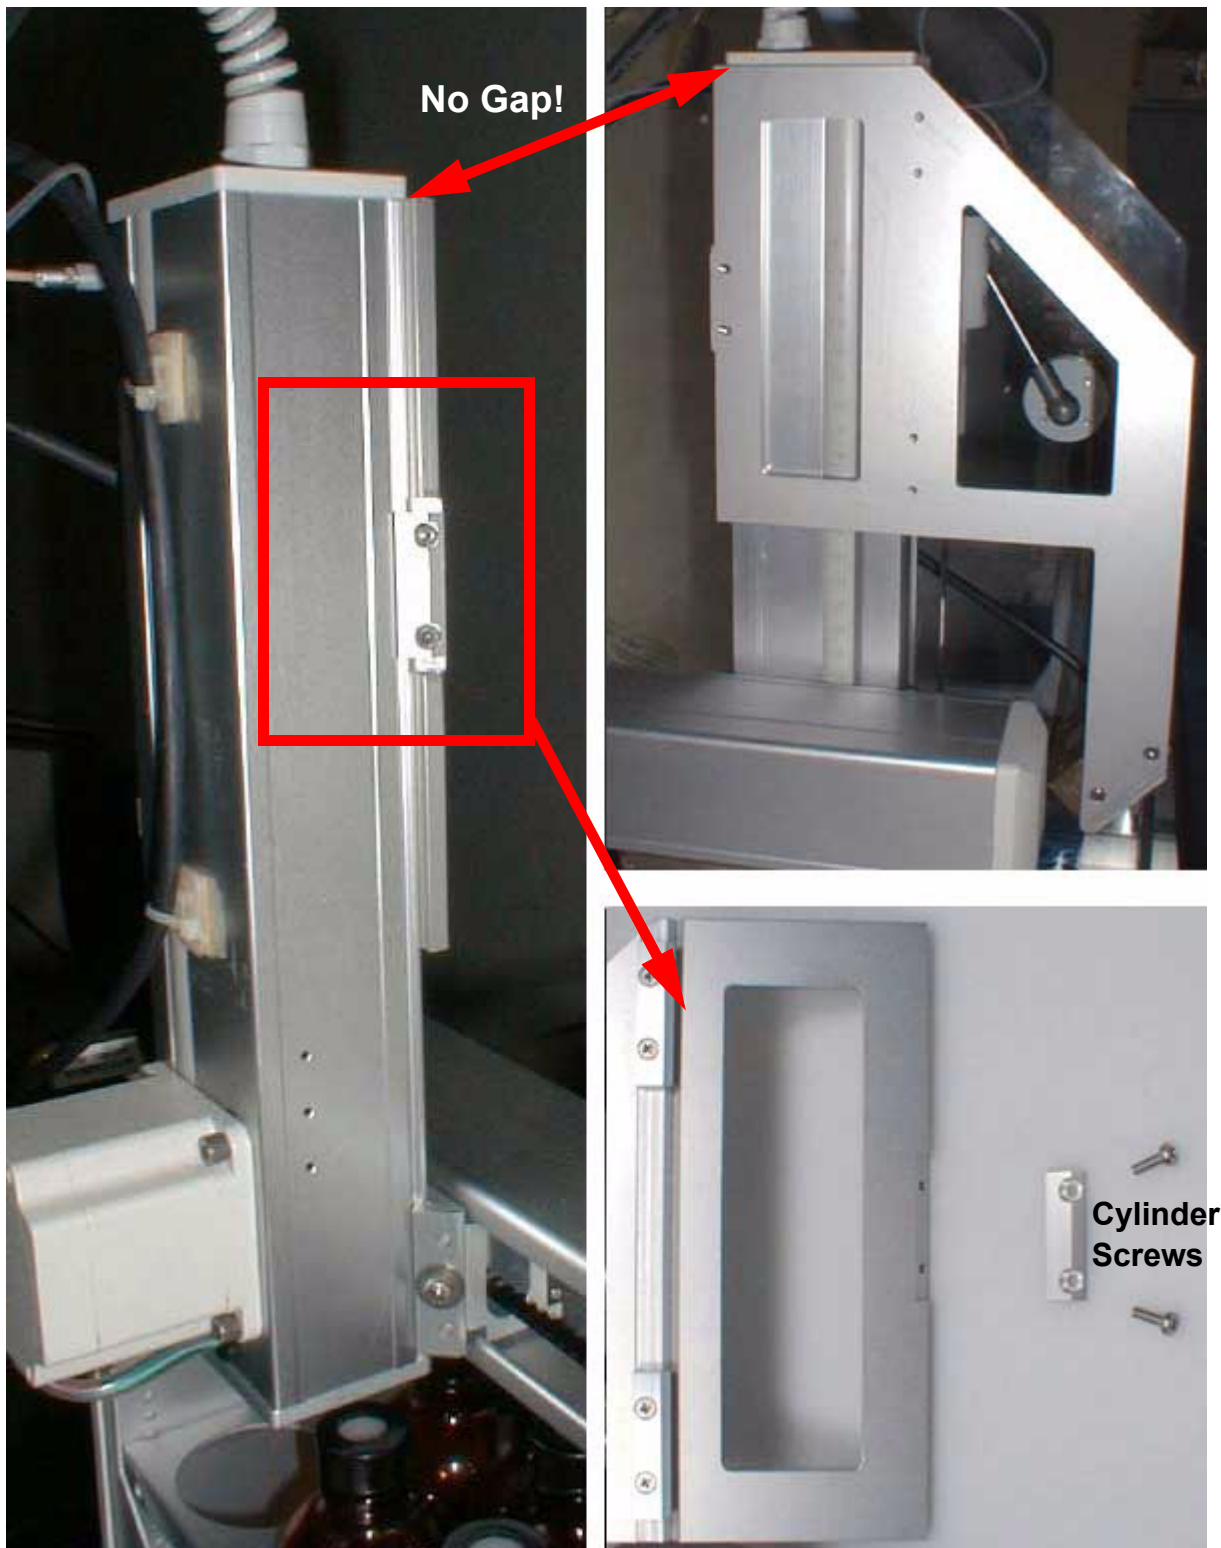

Figure 3.2. Mounting the Barcode Reader Bracket
2. Mount the barcode reader bracket on the Z-tower of the Gilson Liquid Handler using the two M3x10 cylinder screws. Ensure that you mount the bracket just under the top plate of the Z-tower cover. There should not be a gap between the Z-tower cover and the bracket (as shown in Figure 3.2.).